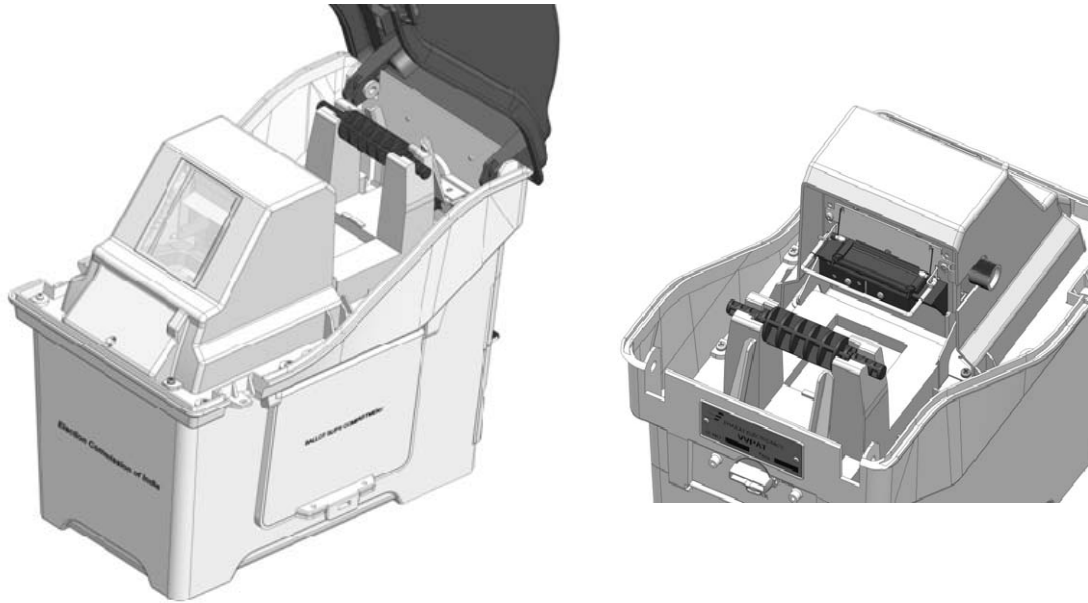

Figure 3.11 - Opened Paper Roll Compartment
- (d) Open the paper roll compartment door of the VVPAT - M3 unit by opening the latches (5 in Figure 1.2). The Paper Roll Compartment is accessible as shown in Figure 3.11.